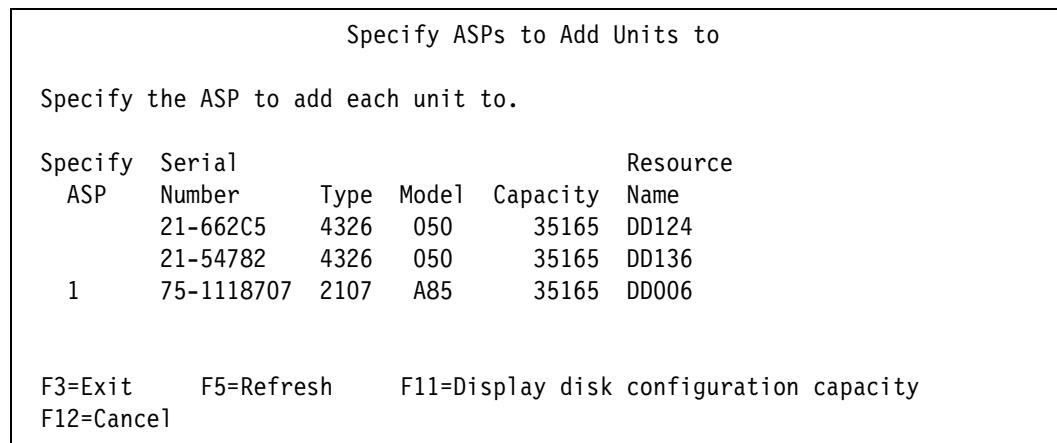

Figure 17-4 Specify ASPs to Add Units
5. Figure 17-4 shows the Specify ASPs to Add Units to screen. Specify the ASP number to the left of the desired units. Here we have specified ASP1, the System ASP. Press Enter.